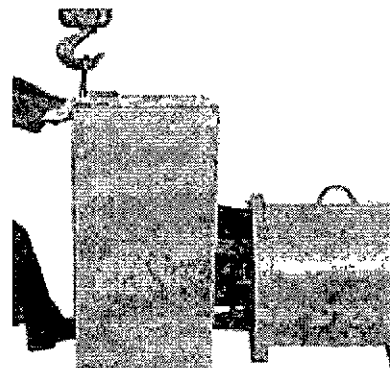

Figure 6-76
1. Install the conduit box over the main stator leads (be sure the leads are in the upper compartment and secure with bolts and lock washers. (Fig 6-76 and 6-77.)